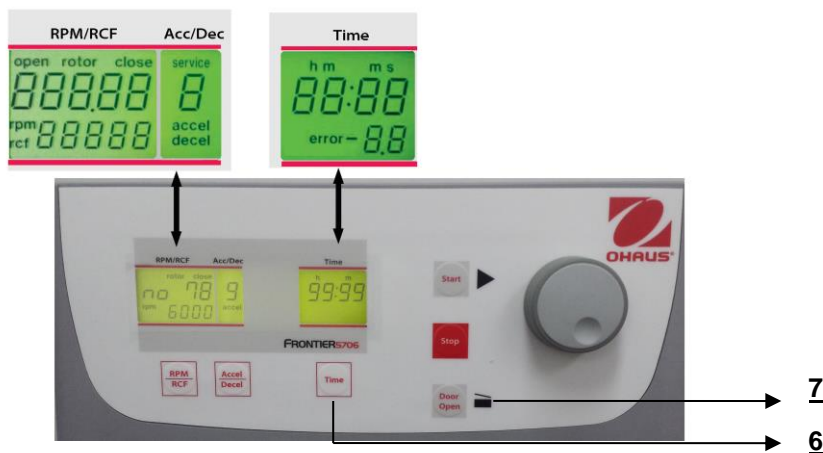

Figure. 26
While the centrifuge is turned off, press simultaneously the keys "**Time**"(6) and "**Door Open**" (7) and turn on the main switch of the centrifuge. Now release both keys and as a result a display test is executed for approx. 5 seconds. All indicators will appear at the same time (See figure 26).